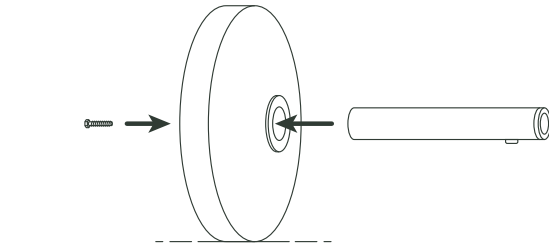

FIG. 1
2. Align the pole on the top of the base plate and secure by screwing in the bolt through the bottom of the base plate and into the bottom of the pole. (Fig. 1)